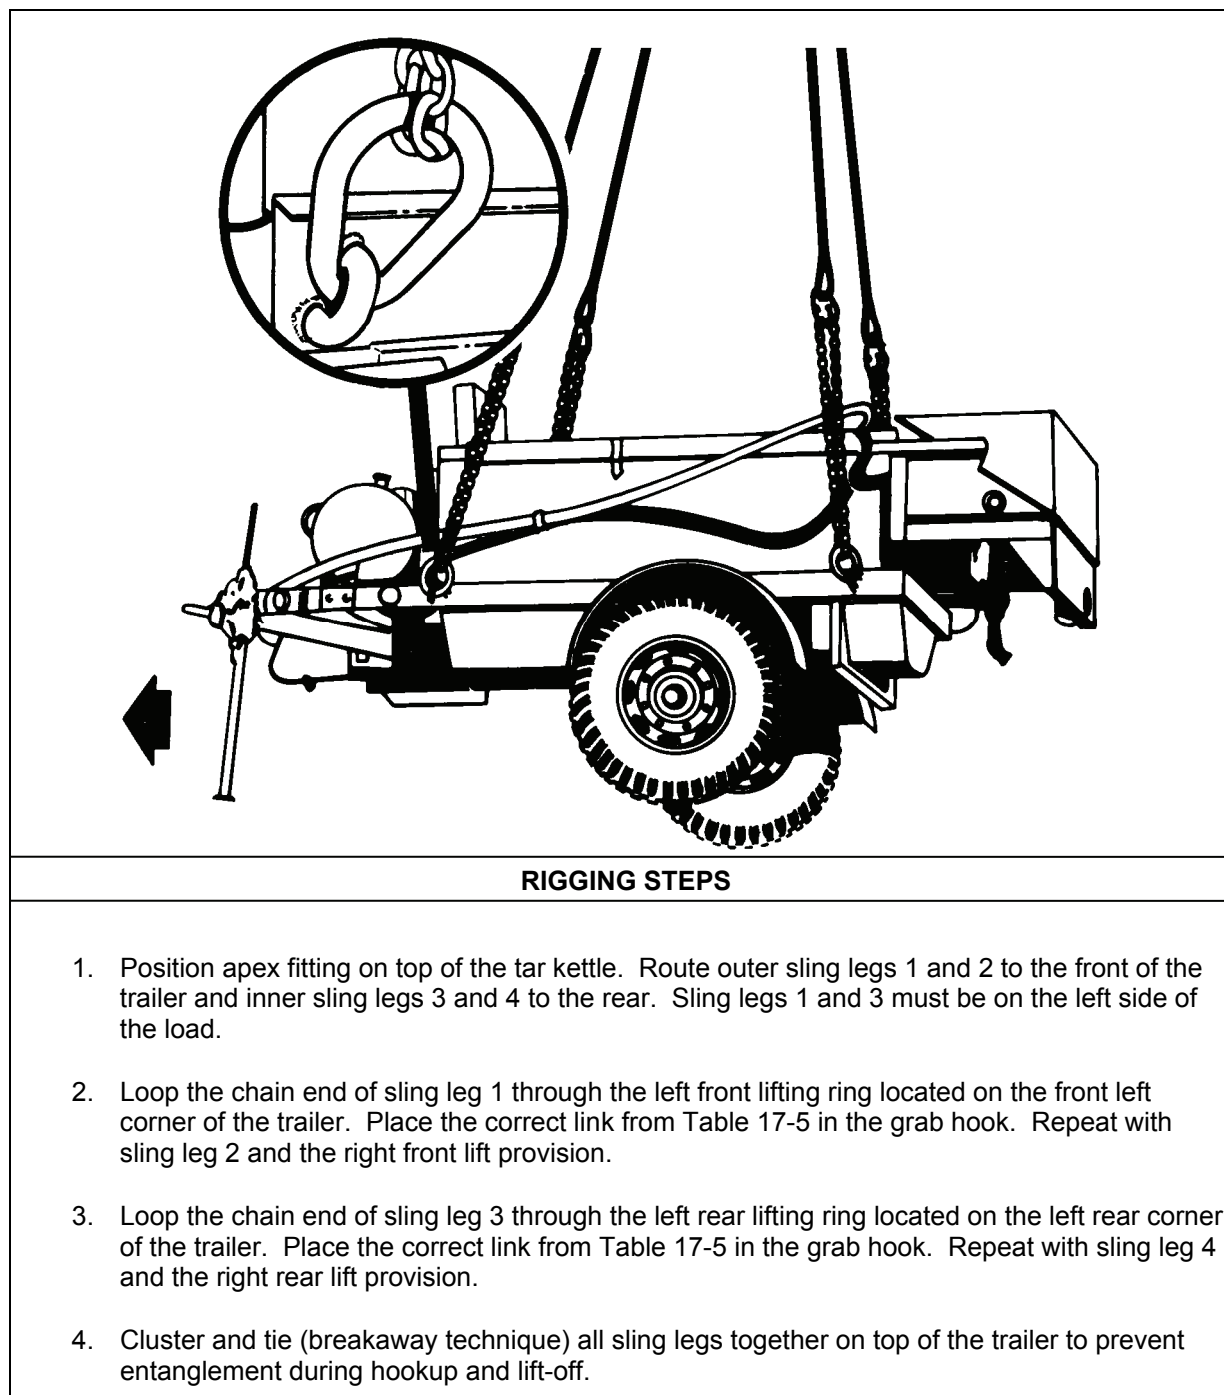

Figure 17-5. Tar Kettles
- **Rigging.** Rig the load according to the steps in Figure 17-5.